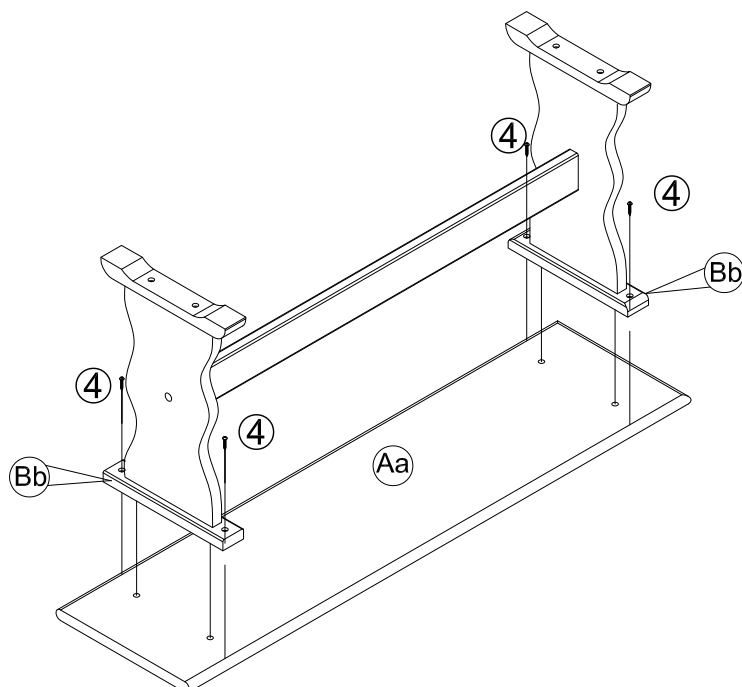

FIGURE 4
- 4.1 ATTACH ASSEMBLED LEGS TO SEAT #Aa THROUGH FITTING WOOD DOWELS PRESENT IN UPPER SIDE OF SEAT SUPPORTS #Bb INTO HOLES LOCATED UNDERNEATH OF SEAT #Aa AS SHOWN IN FIGURE 4. IT SERVES AS GUIDE ENABLING YOU TO CONNECT THE LEGS IN CORRECT POSITION.
- 4.2 USING PRE-DRILLED HOLES AS GUIDE, SECURE CONNECTION WITH (04) SCREWS④DRIVEN WITH PHILLIPS HEAD SCREW DRIVER (NOT ATTACHED) AS SHOWN IN FIGURE 4.